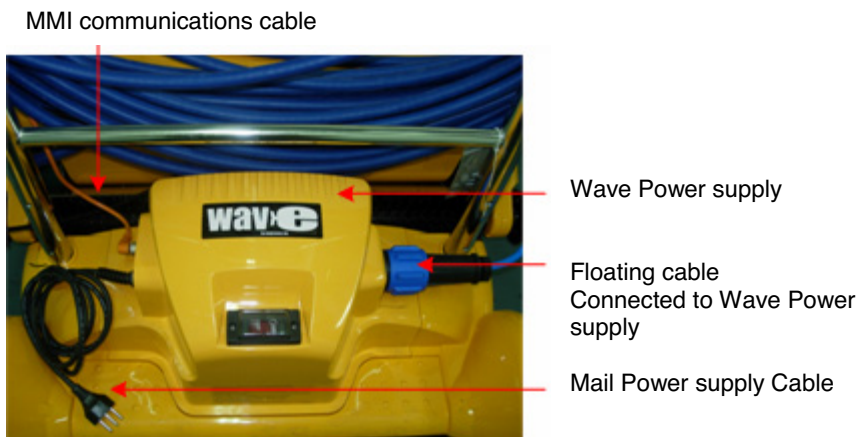

Figure 1: The Dolphin Wave
Refer to Figure 1.
2. Place the Dolphin Wave robot on the caddy in front of the power supply as shown in Figure 1.